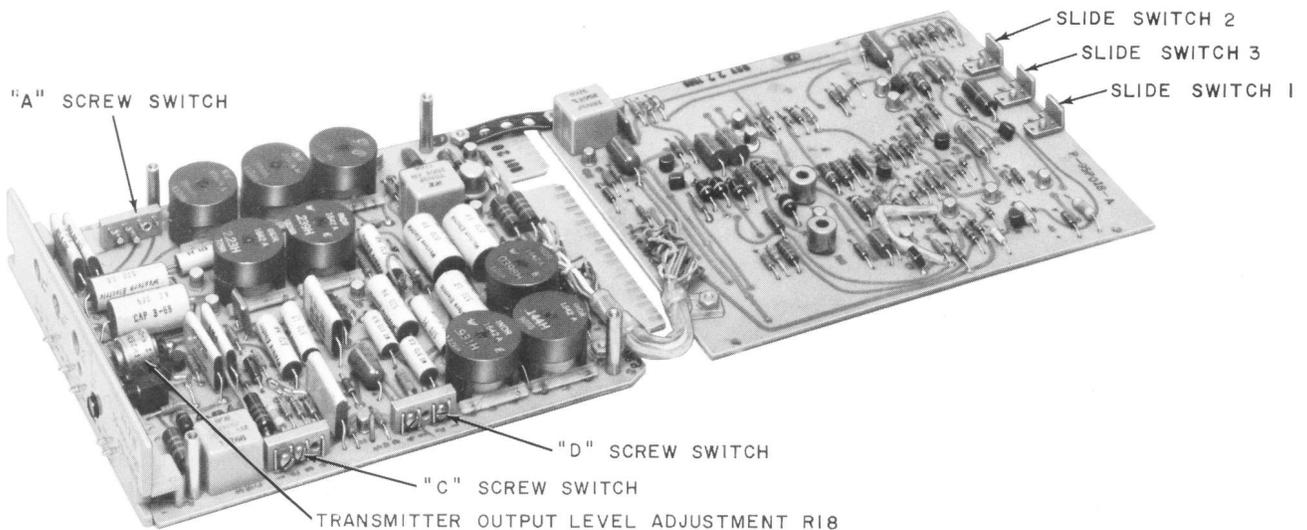

Fig. 3—Data Set 108D-Type (Series 2) Showing Location of Switches
2.01 Each data set 108D and 108E-type consists of two printed wiring circuit boards mounted together in piggyback fashion (Fig. 3 and 4). Each data set 108D- and 108E-type is approximately 5-1/2 inches high, 7-1/10 inches deep, 1-1/8 inches wide, and weighs approximately 2 pounds.